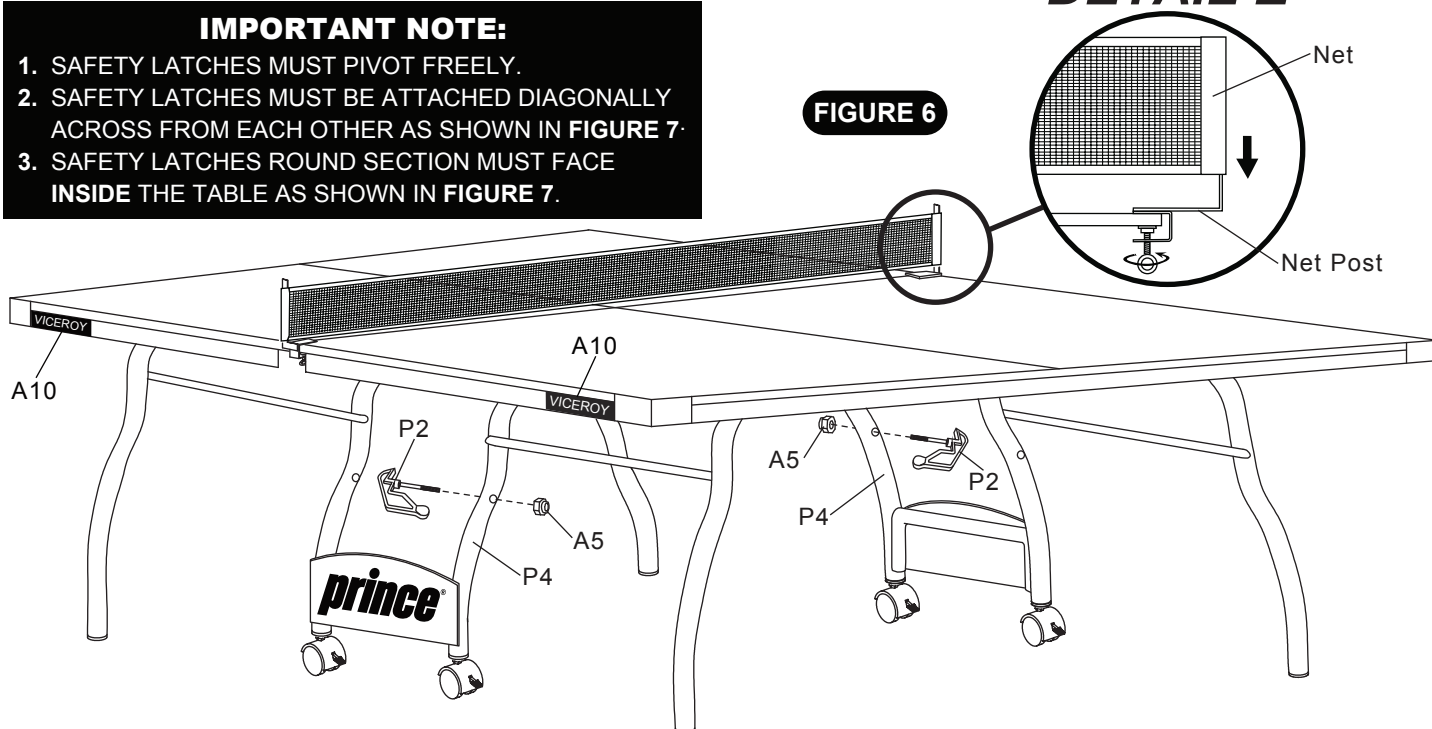
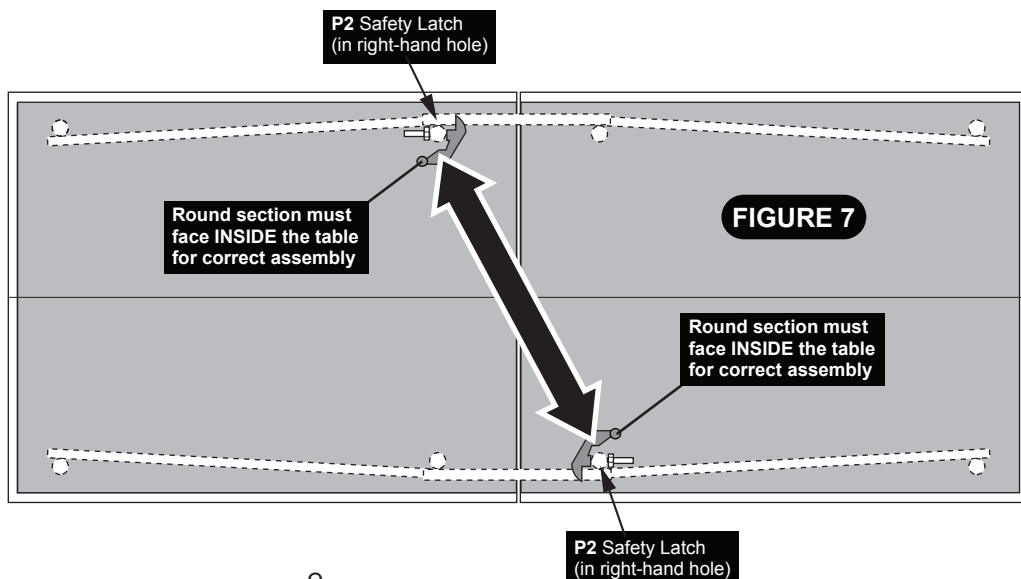

FIGURE 6
FIGURE 7
Attach one piece **P2** Safety Latch into the right-hand hole on the **P4** Inner U-Support Leg using one piece **A5** Lock Nut as shown in **FIGURE 6** and **FIGURE 7**.
Next, Go to the other side of the table and attach the second **P2** Safety Latch into the right-hand hole on the other **P4** Inner U-Support Leg using one piece **A5** Lock Nut as shown in **FIGURE 6** and **FIGURE 7**.
Next, Attach **P1** Net Post Set as shown in **FIGURE 6** and **DETAIL E**. Have one person push the table halves together carefully and have a second person screw the Net & Post on both table tops. When putting the table into the Play or Storage position take the Net & Post sets off and then attach to one side of the table.
Lastly, Attach **A10** Viceroy Decals as shown in **FIGURE 6**.
2. SAFETY LATCHES MUST BE ATTACHED DIAGONALLY ACROSS FROM EACH OTHER AS SHOWN IN **FIGURE 7**.
3. SAFETY LATCHES ROUND SECTION MUST FACE **INSIDE** THE TABLE AS SHOWN IN **FIGURE 7**.